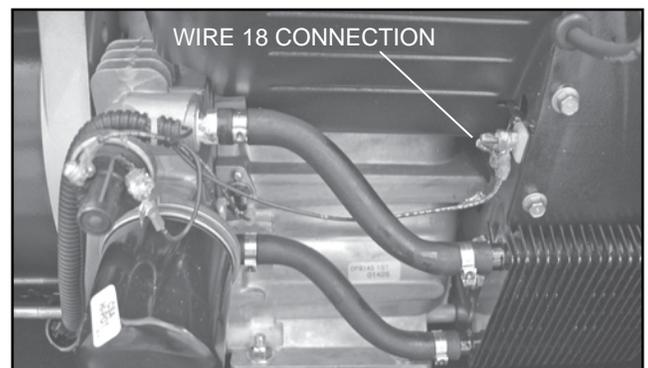

Figure 46. Wire 18 Connection 10-20 kW Units
2. Connect one meter test lead to Wire 18 that is connected to the bolt connector shown in Figure 46. Connect the other meter test lead to a clean frame ground.